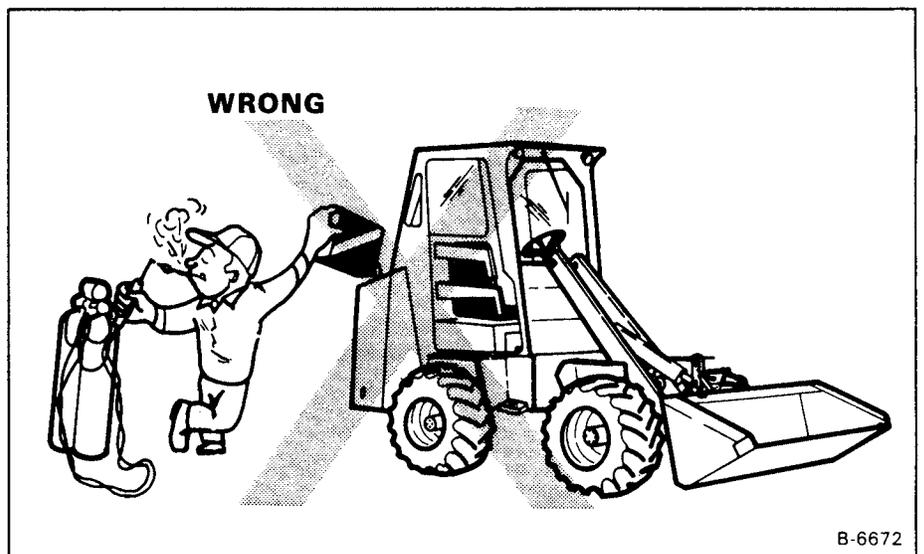

Fig. 1-11 Fuel Fill Warning
(2) Use clean fuel of the correct specification from a clean, approved safety container. Fill the tank only in an area that has a free movement of air and no open flames or sparks (Fig. 1-11).